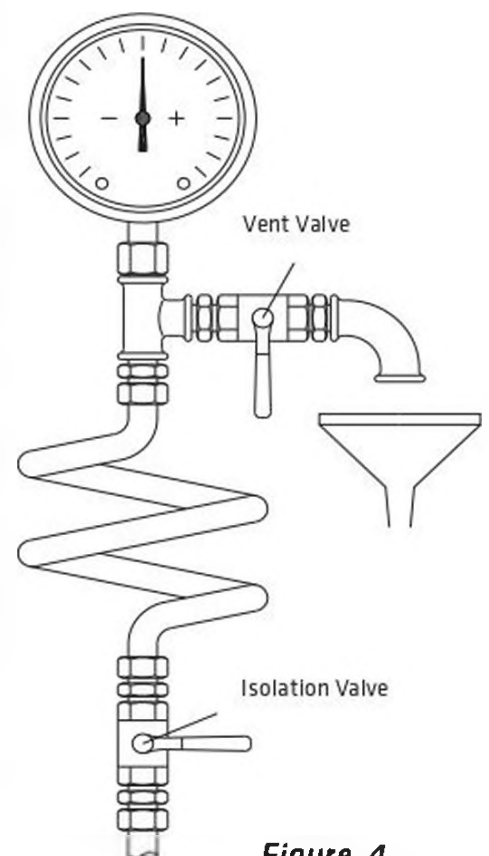

Figure 4
- Pressure and vacuum gauges must be properly anchored and connected at the measuring points located on the pump flanges by means of or on the pipes close to the flanges approximately 8 mm diameter tubing with pig tail configuration to lessen pressure fluctuation. For safety purposes isolating and vent valves should be fitted before the gauges (Figure 4).